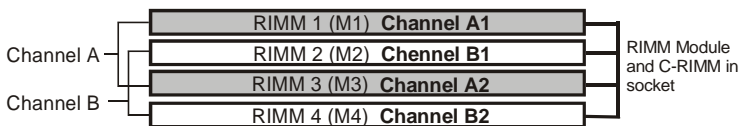
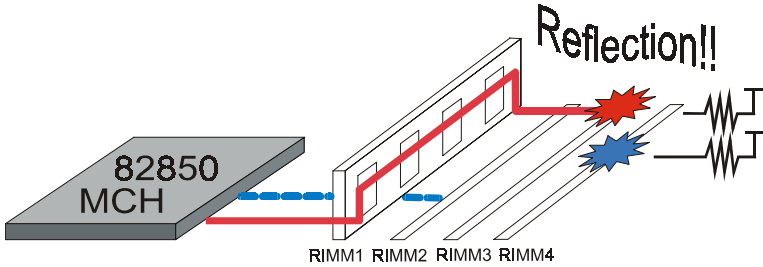
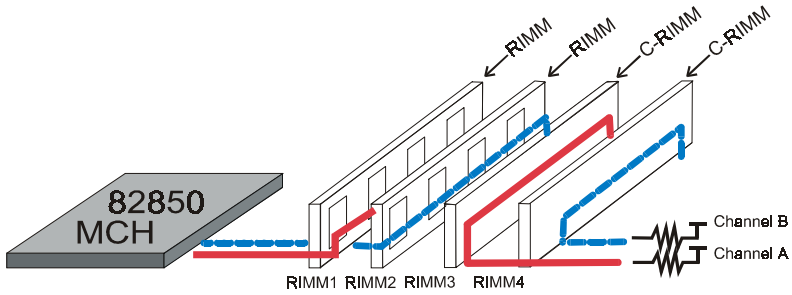

Figure 10
Figure 12: Wrong Configuration
Figure 14-1: Right Base Configuration
The board supports two channels (4) 184-pin RIMMs (Rambus Interface Memory Module) as shown in Figure 10. The RIMMs can be RIMM and C-RIMM (Continuity RIMM) only. RIMM modules have Rambus channel signals as their memory interface. A RIMM module may contain up to a maximum of 16 RDRAM devices. All RDRAM devices on a RIMM must have the same timing characteristics. Empty RIMM sockets must be populated with continuity modules (C-RIMM). These modules have no memory on them and are used to propagate the channel to the next RIMM socket. Figure 12, 13, 14 & 15 provide a general diagram of a RIMM module and installations of RIMM/C-RIMM modules. **The board must be populated 4 RIMM modules at the same time, that will boot-up the system.**
This section describes some basic RIMM/C-RIMM installations as described in table 3. Note that continuity Modules are required in empty sockets. Figure 14-1, 14-2 and 15 display common installations including examples of incorrect (see figure 12, 13-1, 13-2). RIMM or RDRAM signals are daisy-chained through each device on RIMM and memory module.